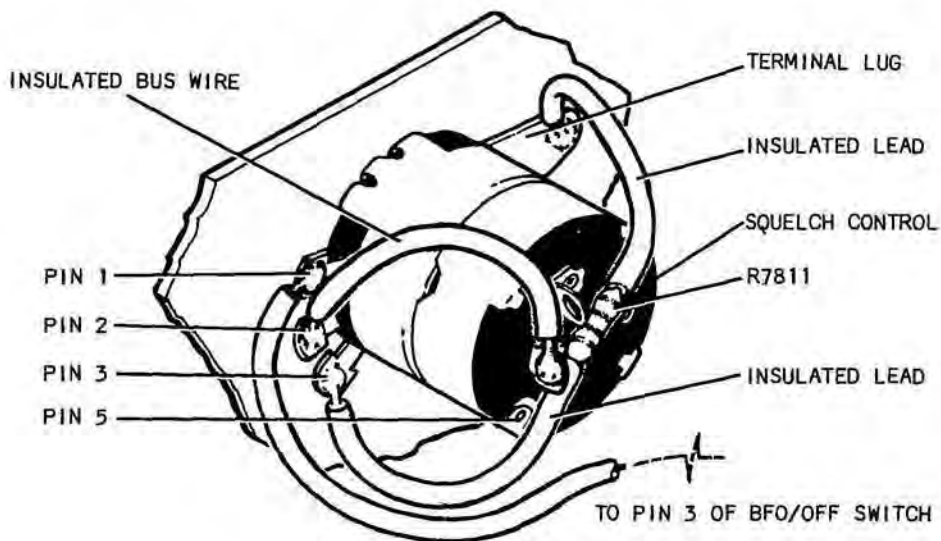

Figure 6-15 SQUELCH Control Installation
M. SQUELCH Control (20) by attaching:
1. Terminal lug (19) and control (20) at rear of panel (72); flat washer (54) and hex nut (55) at front of panel (72).
2. Ensure that control is installed as shown in Figure 6-15 before soldering wires.